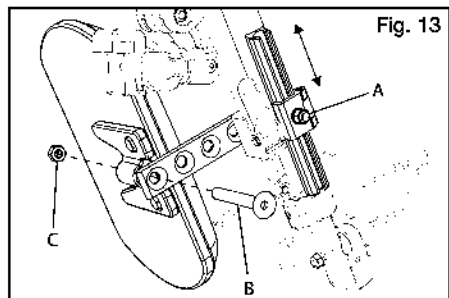

Fig. 13
- a. Loosen nut (Fig. 13:A) using a 10mm wrench.
- a. Remove the screw (Fig 13:B) and nut (Fig. 13:C) on the calf pad arm using a 5mm Allen wrench and a 13mm wrench.